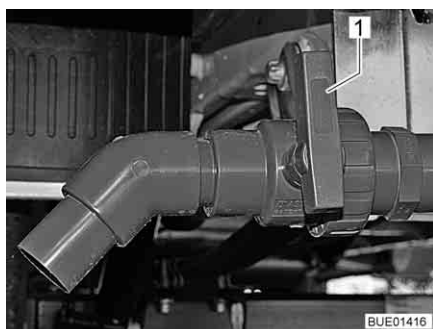

Fig. 214 Drain cock (outside)
- Turn the handle (Fig. 214,1) of the drain cock in flow direction. This drains the waste water through a spherical valve.